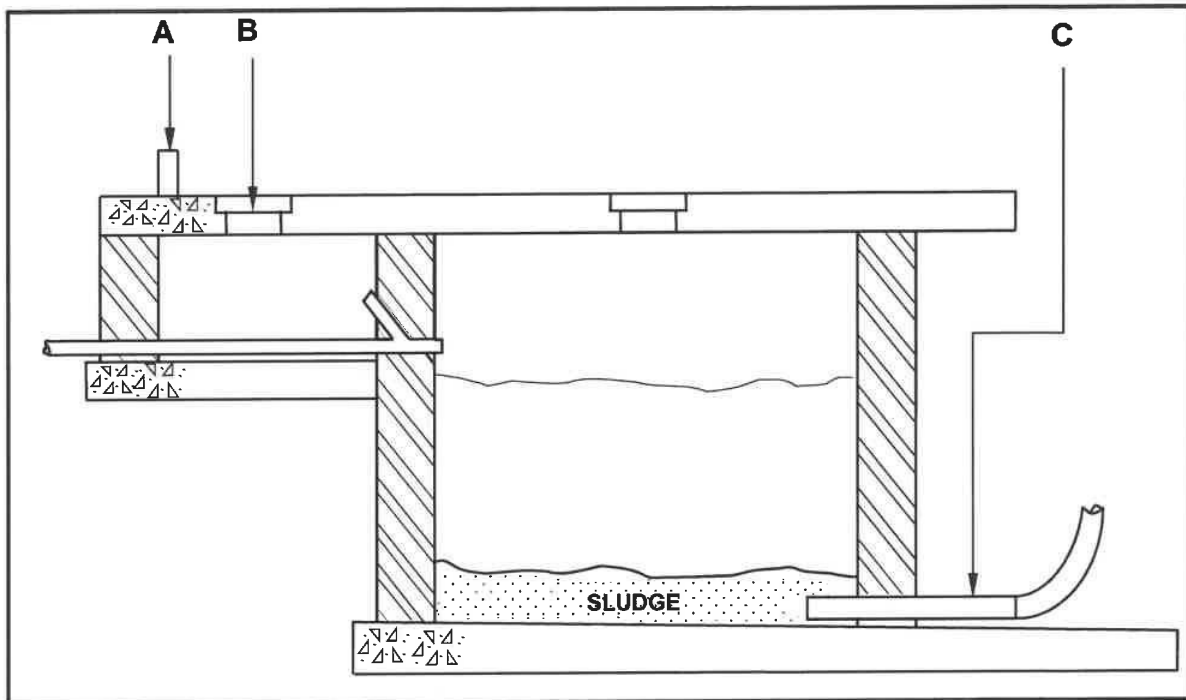

FIGURE 6.7
- 6.7 FIGURE 6.7 shows a drainage system.